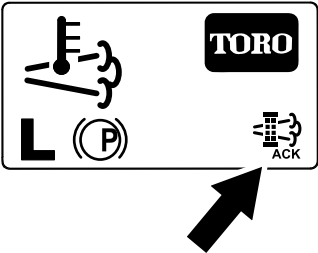

Figure 70
- The InfoCenter displays the home screen and the regeneration acknowledge icon (Figure 70) appears in the lower right corner of the screen as the regeneration processes.